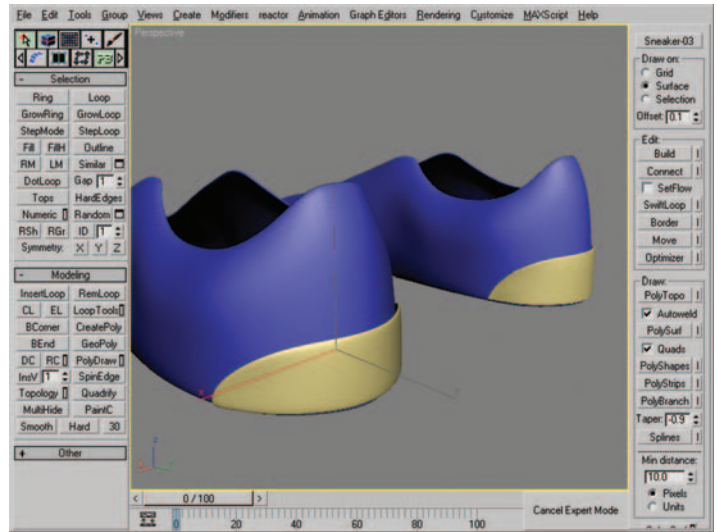

Figure 12.35 Resulting mesh (left) and resulting mesh with additional chamfers added (right).
10. Add a Shell modifier with an Inner Amount of 0.04 and an Outer Amount of 0.03. Above the Shell modifier, add a TurboSmooth modifier with two iterations. Figure 12.35 shows the resulting mesh (left) as well as the resulting mesh with two additional chamfers to create a cleaner/crisper shape (right).